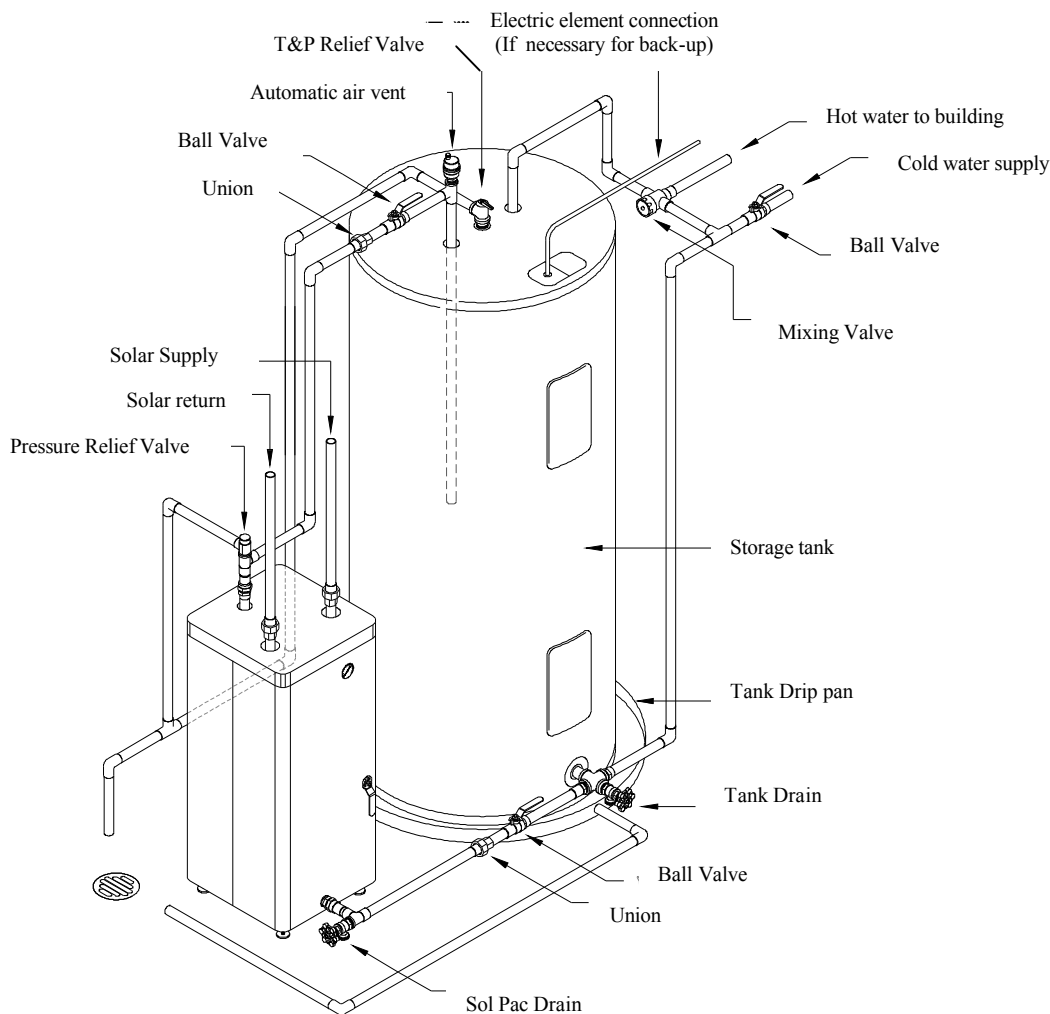

Figure 2
4. CONNECTIONS - Figure 2 illustrates a typical installation using the water tank drain as the cold water supply to the system(s). In this illustration, isolation valves, unions and an additional drain valve (all optional) are used as interconnects and allow for cut-off of the module if repair/replacement is required.